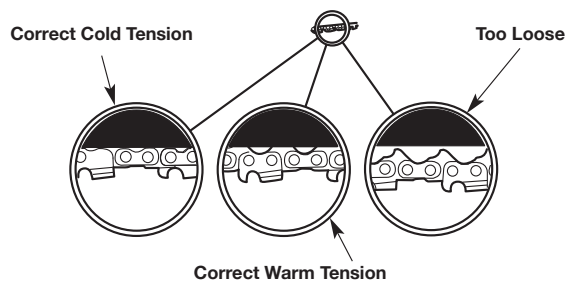

Fig. 26
- a. Cold Chain Tension - The chain should fit snugly against the underside of the guide bar. No sagging should be visible (Fig. 26).
- b. Warm Chain Tension - The steel blade expands when warm due to use. Approximately 1/16 inch (1.3 mm) of sag should be visible under the guide bar when warm (Fig. 26).